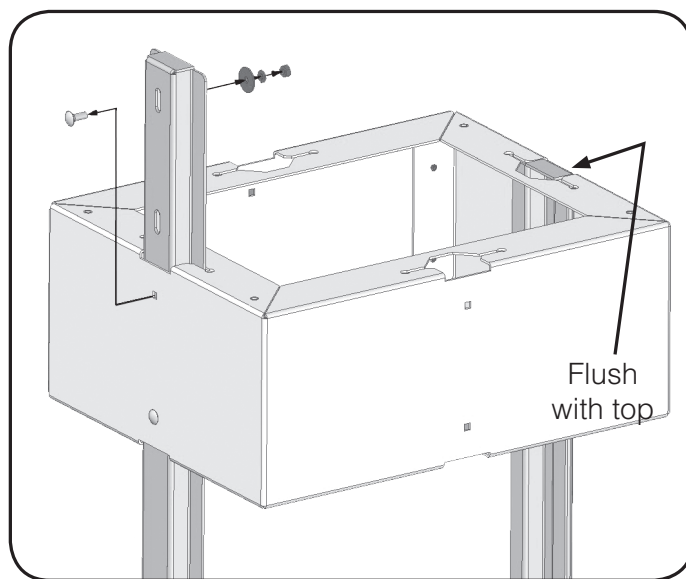

Figure 6.2
5. Hammer the stakes into the ground until their top ends are flushed with the top of the pedestal. See Figure 6.2.